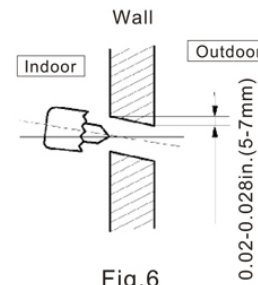

Fig.6
- A. Determine hole positions according to the diagram detailed in Fig.5. Drill one (1) hole (3in. (65mm)) slanting slightly toward the outdoors, as shown in Fig. 6.